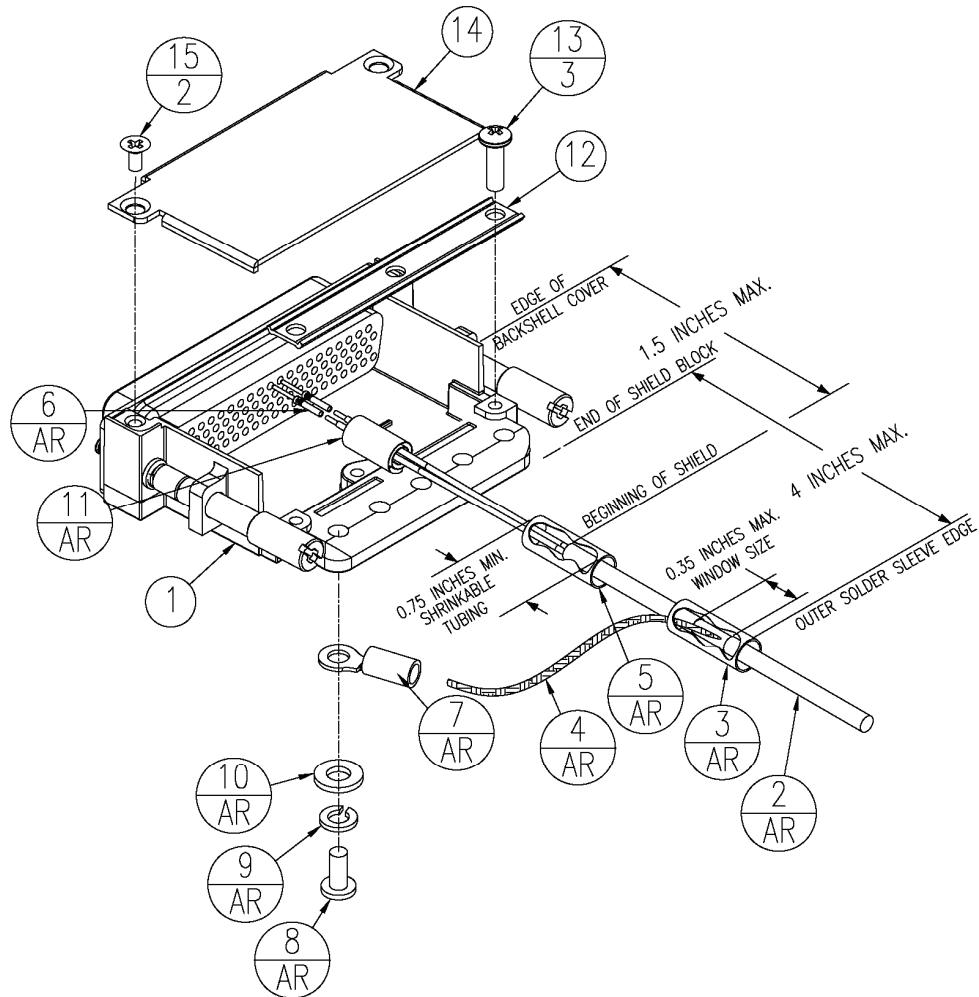

Figure 16-5 Shield Install onto a Jackscrew Backshell (78 pin example)
Table 16-4 Parts supplied for a Shield Block Installation (Figure 16-5)
Table 16-5 Parts not supplied for a Shield Block Installation (Figure 16-5)
In Figure 16-5, "AR" denotes quantity "As Required" for the particular installation.
7. Cut the Flat Braid (item 4) to a length that, with the addition of a ring terminal, will reach one of the tapped holes of the Jackscrew backshell (item 1) (Figure 16-5). An appropriate amount of excess length without looping should be given to the Flat Braid (item 4) to allow it to freely move with the wire bundle.